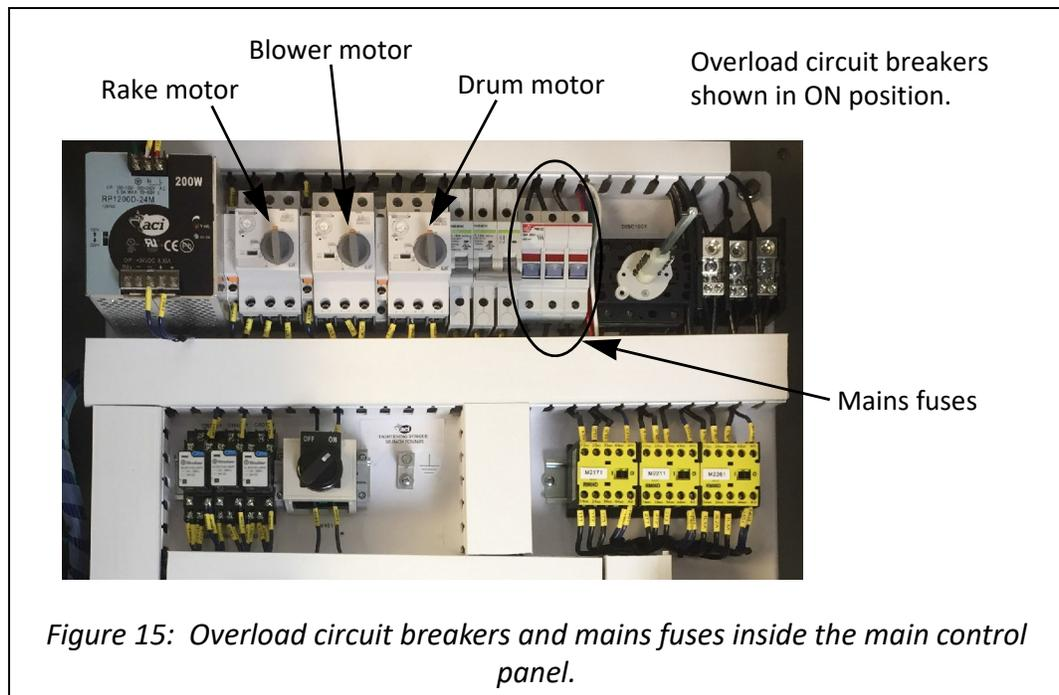

Figure 15: Overload circuit breakers and mains fuses inside the main control panel.
- There are three (3) 15 A mains fuses (see Figure 15 on page 40). These fuses should only require replacement if there has been a hard short to ground. In the unlikely event that one or more of the mains fuses have blown, the Voyager must be immediately taken out of service and disconnected from the 480V electrical supply. Do not replace these fuses without consulting with FORTA® Corporation; contact FORTA® Corporation as directed on page 7.
- Each motor in the system is protected from overload by a circuit breaker (see Figure 15 on page 40). If one or more of these circuit breakers is tripped during operation, the Voyager system is stopped and the fault display on the main control panel will indicate the appropriate fault(s). To reset the system when a motor fault occurs, perform the appropriate procedure below.
4. Open the main control panel and reset any overload circuit breakers that are tripped; see Figure 15.
4. Open the main control panel and check if the drum motor overload circuit breaker is tripped; see Figure 15. If the circuit breaker is tripped, reset it and continue with step 5. If the circuit breaker is not tripped, contact FORTA[®] Corporation as directed on page 7.